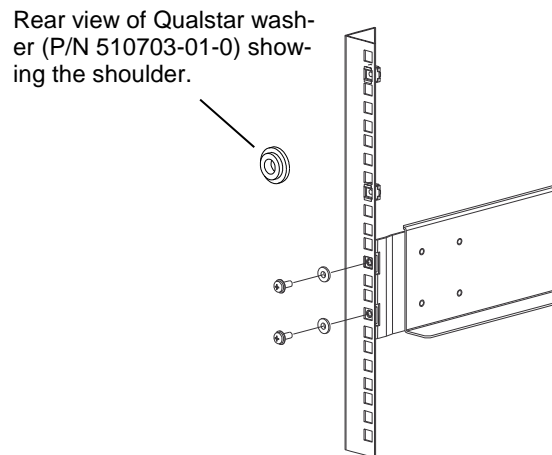

Figure 7-21 Screws and Washers securing a Rack Rail Assembly to the Rack Posts
8. Either re-using the screws and washers from the old rack rail assembly or those that were supplied with the new one, attach the assembly to the rack using all four mounting bracket holes on each slide assembly. Tighten the hardware securely with a Number 2 Phillips screwdriver making sure that the washers are in place as shown in Figure 7-21. Note that the washers have a specially designed shoulder and can only be acquired from Qualstar. If new washers are required please contact technical support and request P/N 510703-01-0.